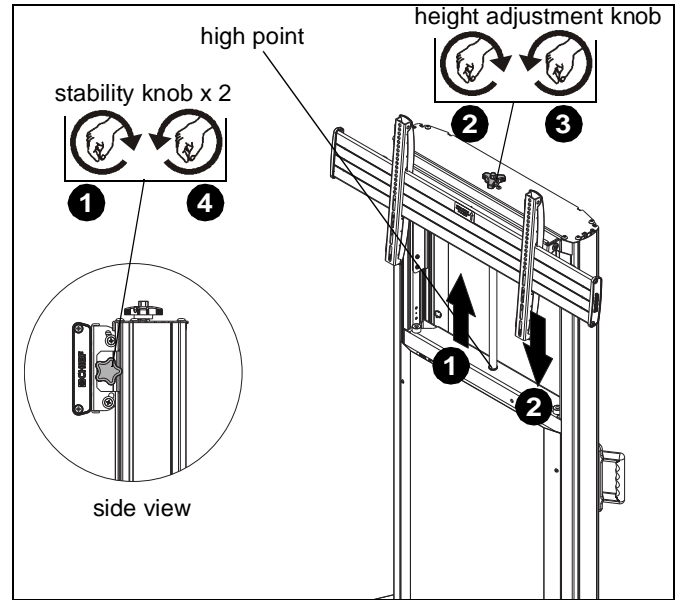

Figure 21
- Loosen two stability knobs on either side of head assembly. (See Figure 21)
- Turn height adjustment knob clockwise to raise display. (See Figure 21)
- Turn height adjustment knob counterclockwise to lower display. (See Figure 21)
WARNING: Do not attempt to raise or lower the adjustment carriage beyond its upper or lower limit. High and low points are shown in Figures 21 and 22.
- Tighten two stability knobs on either side of head assembly. (See Figure 21)